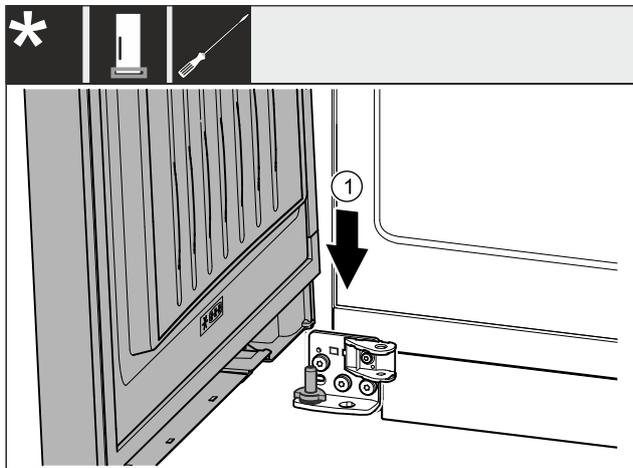

Fig. 30
- ▶ Lower the door onto the bottom bearing bolt. Fig. 30 (1)